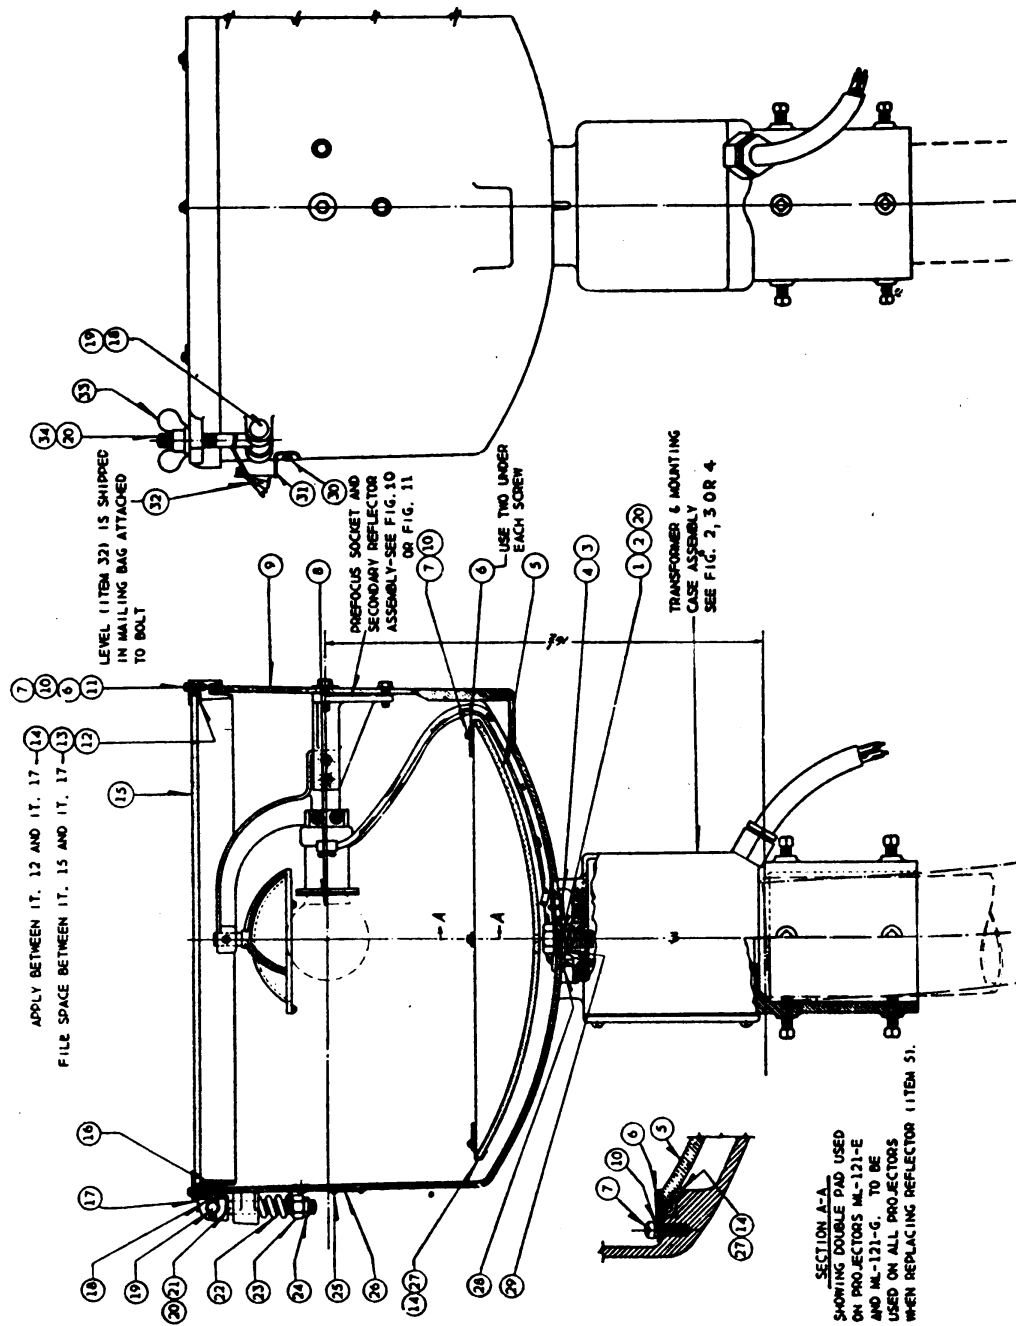

Fig. 9—Ceiling Light Projector ML-121-(*), General Assembly
(Figure 9). A primary reflector (item 5) is replaced by removing the six sets of screws, lockwashers, and clips which hold it in place against the felt-pads (item 27).
c. Replace the six sets of screws, lockwashers and clips and **BE CAREFUL TO TURN THE END OF THE FELT PAD OVER THE EDGE OF THE REFLECTOR, BETWEEN THE CLIP AND THE REFLECTOR SURFACE.** See the detail sketch (Section A-A) in figure 9.